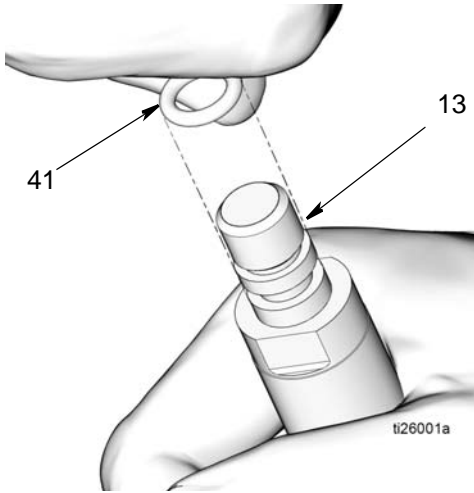

FIG. 21
- c. Remove o-ring (41) from the piston rod (13) (FIG. 21).